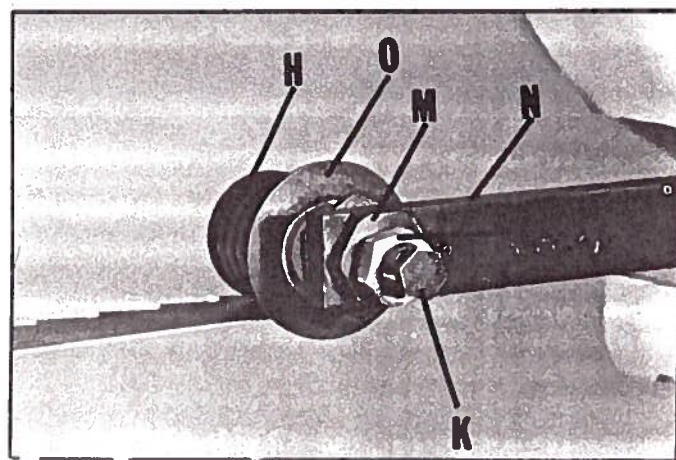

Fig. 33
10. While holding screw (K) Fig. 33, loosen nut (L). Up or down movement of the blade guide roller (H) is made by turning nut (M). Maximum downward adjustment of the guide roller (H) is when one of the flats on the nut (M) is in line with the top of the bar (N). Then, holding screw (K) tighten nut (L) being careful not to disturb adjusting nut (M). The other blade guide roller is adjusted in the same manner.
11. When the blade is tracking properly, the flange (O) Fig. 33, of the blade roller (H) must be approximately 1/4" away from the back of the blade. If an adjustment is necessary, hold screw (K) and loosen nut (L). The blade roller (H) can be moved in or out by turning screw (K) being careful not to disturb adjusting nut (M). Then tighten nut (L).